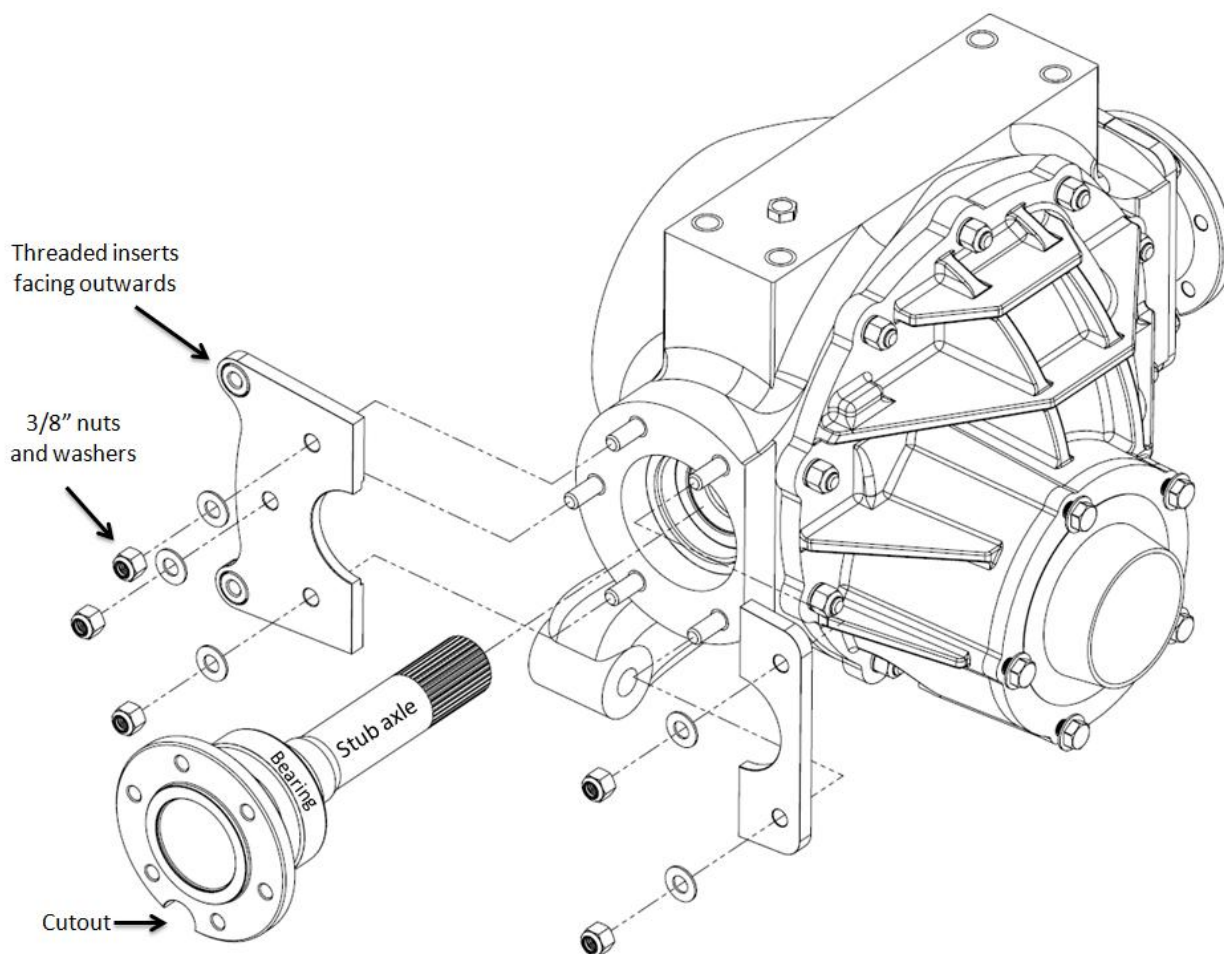

Figure 9. Passenger side axle (longer axle) being installed with the caliper plates (some parts removed for clarity).
- 15) Apply a small amount of white grease to the splines and seal area of the stub axles and seal lips. The longer axle installs on the passenger side. Carefully slide the axle assembly into the housing until the bearing bottoms out. Install the caliper plates and front plates onto the studs, with the threaded inserts in the caliper plates facing outwards, see Figure 9. Secure the plates using the supplied 3/8" Nyloc nuts and washers. There is a circular cutout in the stub axle flange that lines up with the studs so a socket can be used for the lock nuts. If a parking brake is being installed, the parking brake caliper mounting plates will replace the front plates.